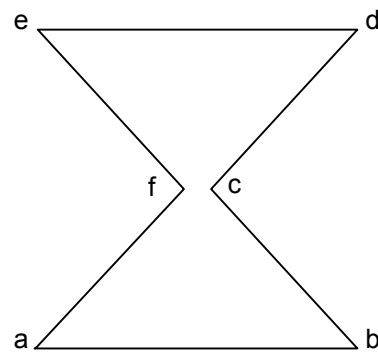

Fig. 3-190 Measurement Allowed (example)
- In such a case, specify the coordinate points in the order of “abcdef” as exemplified in Fig. 3-190. Note that measurement is allowed even if “c” and “f” are located at the same coordinate point.